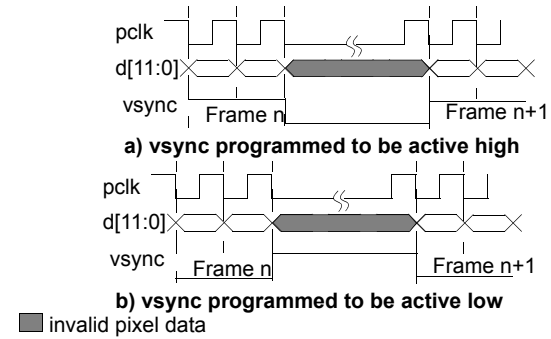

Figure 41. vsync in Level Mode
- Level mode should be used when the pixel clock, *pclk*, is programmed to operate in *free running mode*. In level mode the *vsync* output pin will go to the specified level (high or low) at the start of each frame and remain at that level until the last pixel of that row in the frame is placed on *d[11:0]* as shown in Figure 41. The *hsync* level is always synchronized to the active edge of *pclk*.